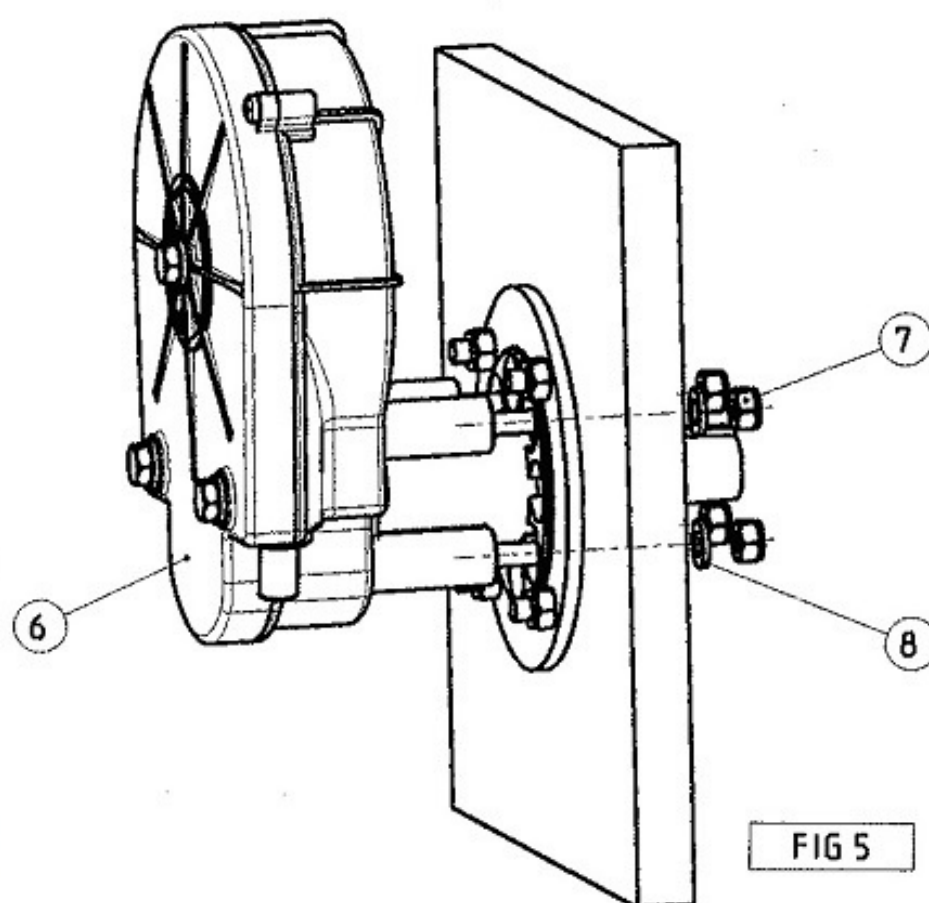

FIG 5
- ☐ Insert the steering box (6) in the special flange seats (see Fig. 5 and 6), positioning it as allowed by the clearances (it is possible to mount the box in 8 different positions, at intervals of 45°). Fit the box in until the four threaded studs come out of the dashboard. Fasten the stud with n° 4 self-locking nuts (7), n° 4 washers (8), tightening them crosswise.